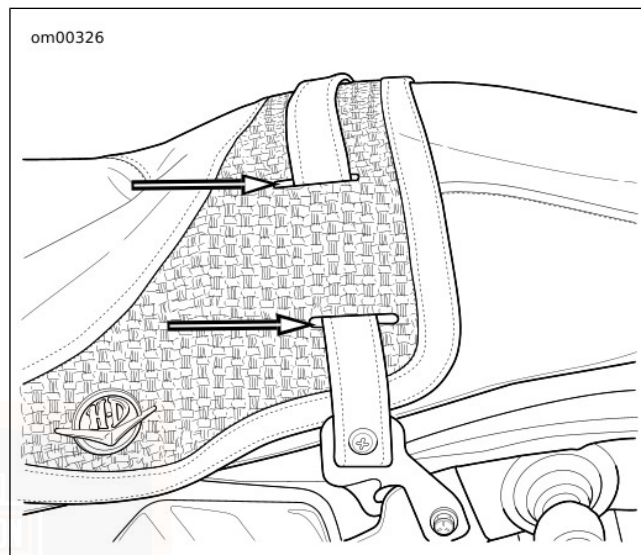

Figure 78. Strap Slots: FLHRC
5. See Figure 78. On FLHRC and FLTRU, carefully pull passenger seat strap through slots in the seat to remove.
6. See Figure 78. On FLHRC and FLTRU, carefully route free end of passenger seat strap through slots in the seat.